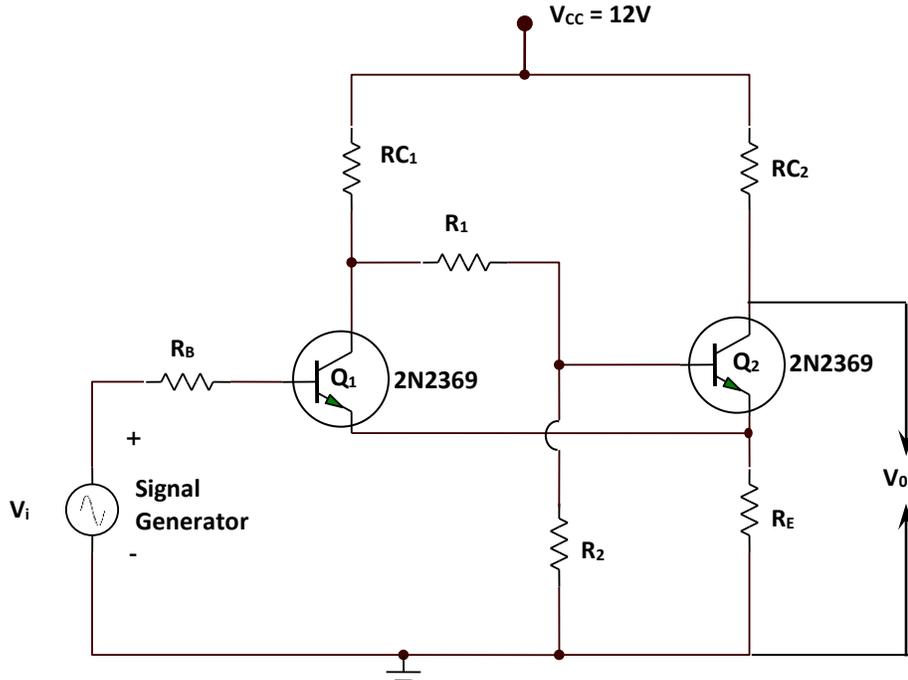

Figure:1
Consider the circuit as shown in the figure.1. The transistor Q_1 and Q_2 are n-p-n transistors. They are coupled to each other as shown in figure 1. It is evident that the output of each transistor is coupled to the input of the other transistor. Since the transistors are identical, their quiescent currents would be the same, unless the loop gain is greater than unity. When I_1 increases slightly, the voltage drop across the collector resistance R_{C1} increases. Since V_{CC} is fixed, the voltage of point C decreases. This has the effect of decreasing the base current of Q_2 . This, in turn, decreases the collector current of Q_2 viz. I_2 decreases, the voltage drop $I_2 R_{C2}$ decreases. Hence the voltage of point D increases.
1. Connect the circuit as shown in figure 1 with designed values.